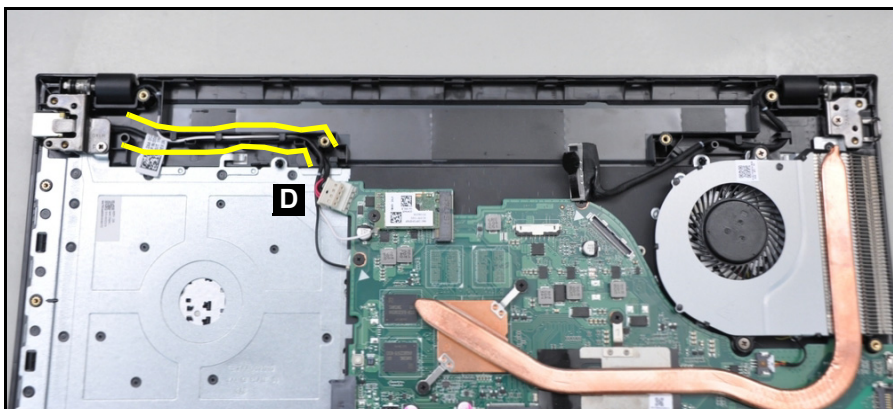

Figure 3-48. LCD Module Removal
4. Remove the DC-in cable (D) from the cable guides as shown in Figure 3-48.